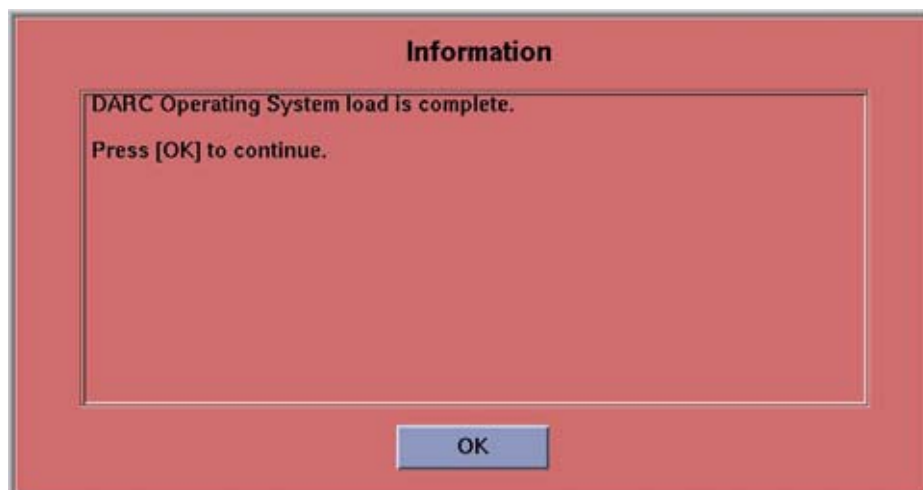

Figure 1-12 DARC OS Load Complete Pop-up Window
- 8.) The DARC OS 'Load Window' should disappear when the load has completed successfully. An information window should appear. See Figure 1-12.